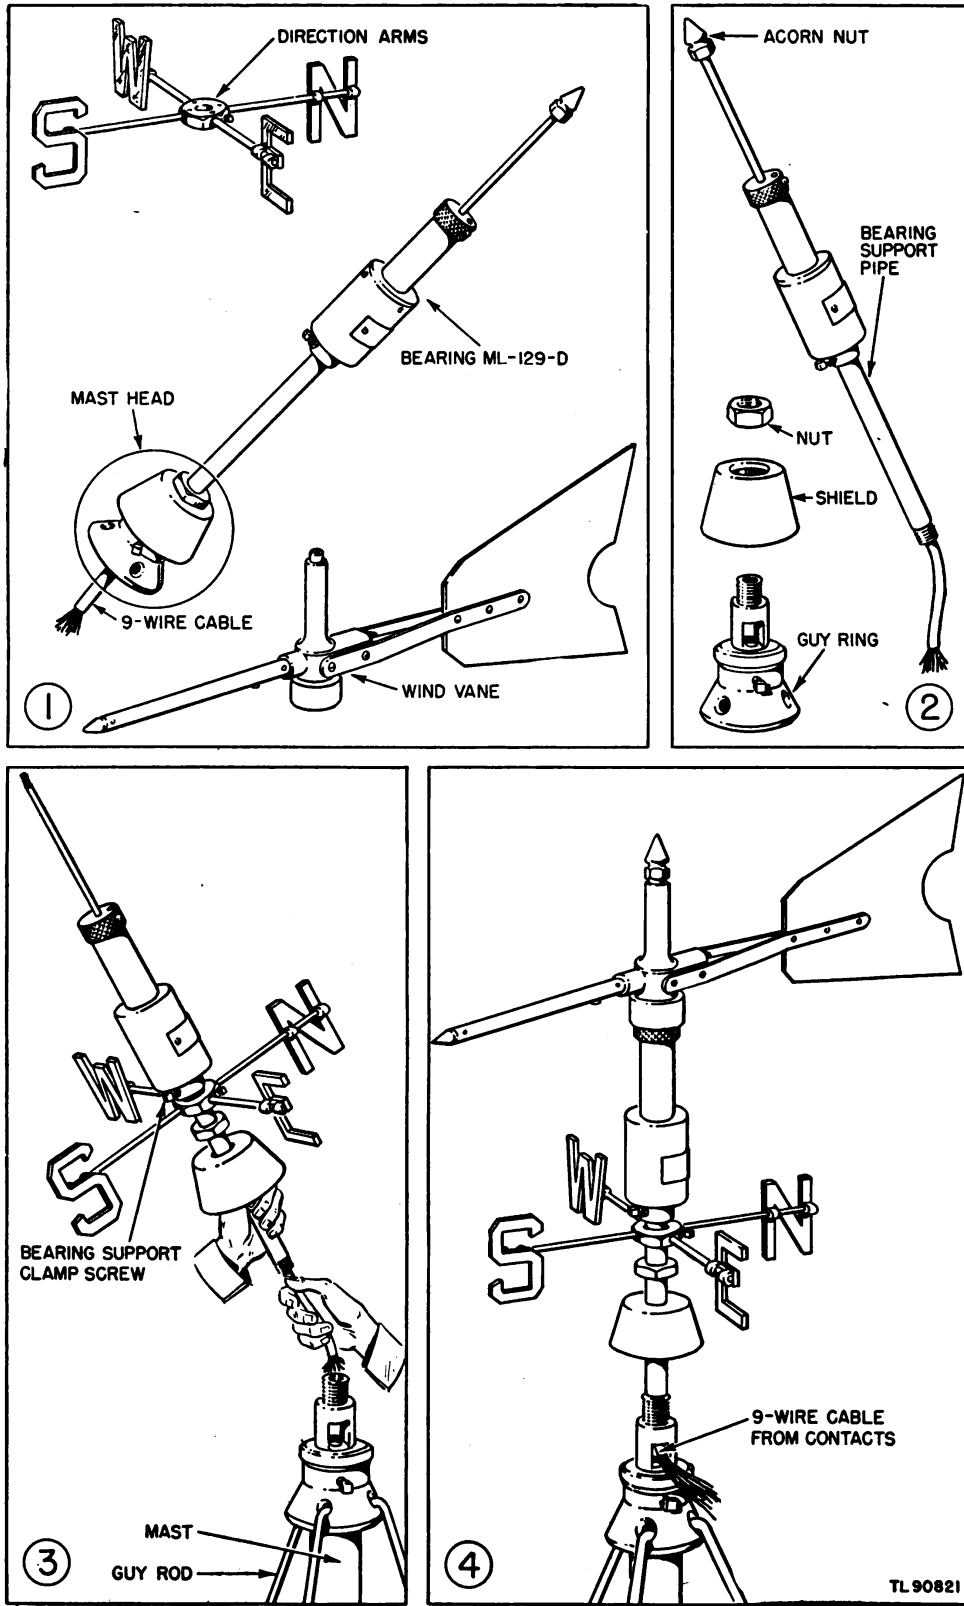

Figure 18. Mounting Bearing ML-129-D.
(2) The mast head (fig. 18) consists of two parts; a guy ring that also is a pipe reducer, and a shield.
(2) Screw the bottom and top mast sections together by the pipe coupling, handling them horizontally and tightening the joint with pipe wrenches.
(3) Clamp the anemometer arm in place about 1 foot from the top of the mast.
(4) Screw the mounting pin in the reducing ell at the end of the arm.
(5) If the wires for connecting the support to Indicator ML-117-A are to be run inside the pipe support, bring them through the pipes and out the top of the mast.
(6) Remove the masthead (fig. 18 ②) from the bottom of Bearing ML-129-D. Unscrew the nut from the top of the masthead, and remove the shield.
(7) Insert the wires through the bottom hole of the masthead and bring them out one of the side holes. Mark the ends of the wires according to instructions given in paragraph 13. Slide the masthead down onto the end of the mast. Tighten the masthead setscrew.
b. Raising mast. (1) Hook a guy rod section into each of the three holes of the guy rod ring.
(2) Keep the mast base from slipping (one man may hold down the base), raise it upright, and bolt it in place.
(3) When erected on a roof, the mast base and anchor shoes should be located over the rafters. If this cannot be done, or if the roof is of unusually light construction, 2-inch wooden blocks or short planks should be screwed to the roof, and the mast base and guy shoes mounted on them. Roof cement under the timbers will prevent leakage.
(4) Join the two sections of each guy rod together by means of the turnbuckle.
(5) Hook an anchor guy shoe on the free end of each guy rod. Extend the rod until the shoe fits flat on the supporting surface. Bolt the shoe securely into place.
(6) Tighten the turnbuckles until the guy rods are rigid.
c. Mounting Bearing ML-129-D (fig. 18). (1) Put the direction letters on the bearing support pipe, and fasten the setscrew temporarily.
(2) Put the removed masthead nut and shield on the bearing support pipe as shown in figure 18 ③.
(3) Loosen the bearing support locknut and clamp screw, so the bearing support pipe may be turned without damage to the wiring. Remove the acorn nut from the top of the vane stud.
(4) Climb the mast and insert the 9-wire cable of Bearing ML-129-D
(5) Screw the bearing support pipe firmly into the masthead as shown in figure 18 ④.
d. Mounting wind vane. (1) Climb the support and put the wind vane over the vane stud of Bearing ML-129-D. Lower the vane until it rests on top of the dust cap; then turn it until the vane pin fits the dust cap hole.